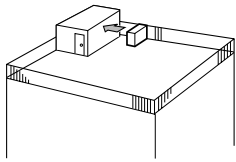

Fig. 2-3
- ① Face the air outlet towards the nearest available wall about 50 cm away from the wall. (Fig. 2-3) [for BP170-BP250 models : 100cm]